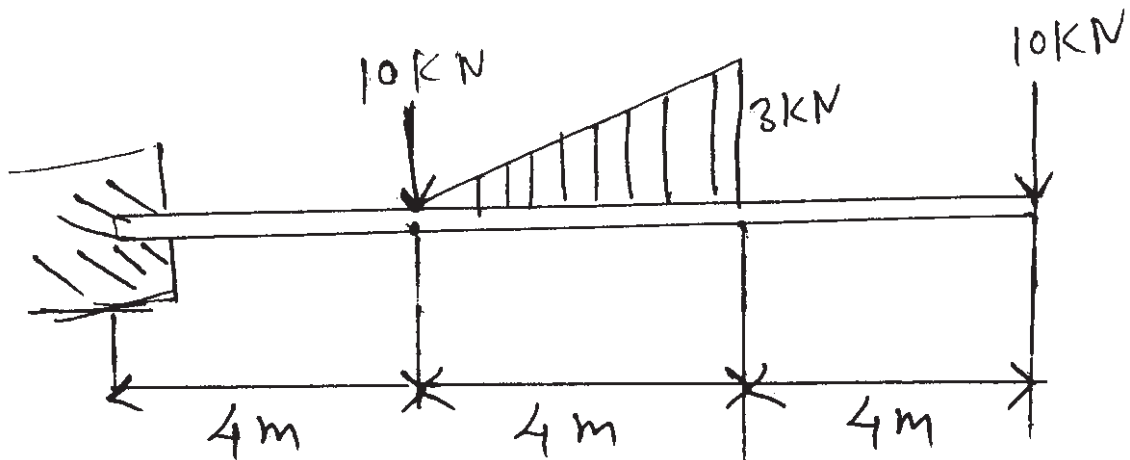

Figure 4
b) Draw SFD and BMD for the following beam as in figure 4. [8]